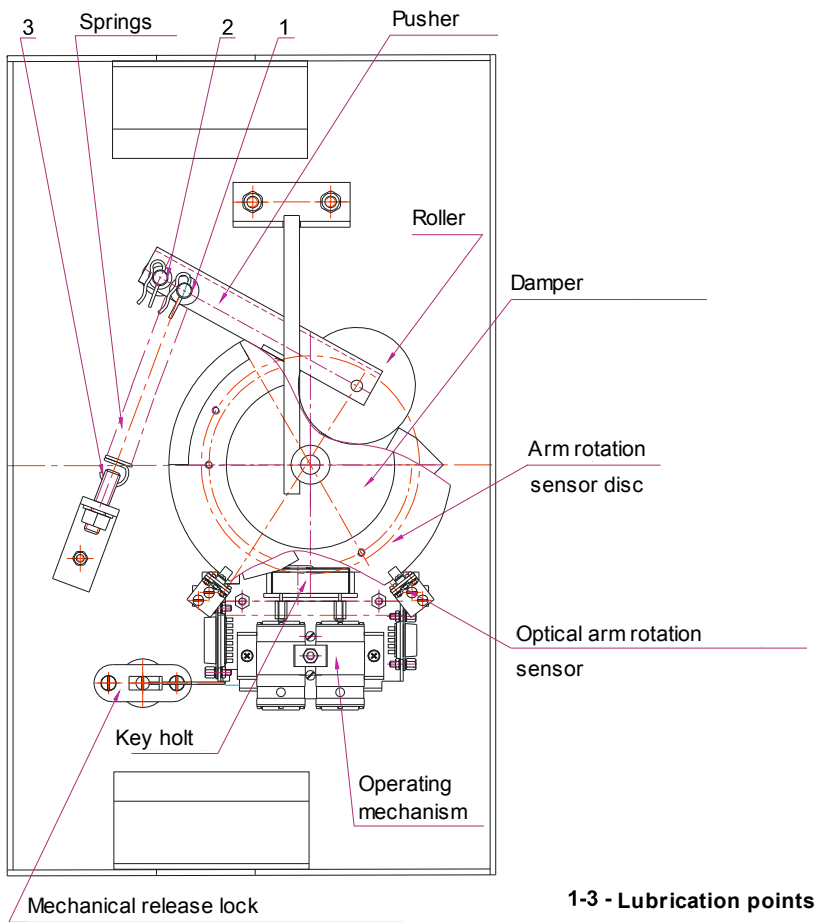

Figure 9 – Arrangement of the components inside the KT-02.3 housing
- remove the cover (3) as described in section 6;
- inspect the resetting device (the pusher, the springs and the roller), the optical rotation sensors for the barrier arms and the damper (ref. Figure 9);
- four bushes of the resetting device (two on the rotation axis of the pusher and two on the fastening axis of the spring), as well as the holes in the fastening parts of the springs: two-three oil drops into each lubrication point (the lubrication points are shown in Figure 9). Avoid ingress of the lubricant on the arm rotation sensor disc and the roller surfaces;